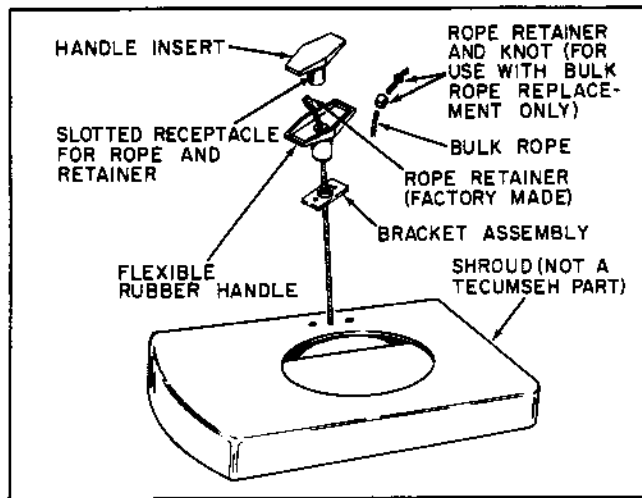

Figure 1-12
- (1) Remove handle (Figure 1-12). Relieve spring tension by allowing starter spring cover to slide slowly through fingers as rope end slips past rope clip. See Figures 1-12 and 1-13. Complete removal of the starter is not always necessary if it is easily accessible. It may be necessary to remove the shrouding provided by the mower manufacturer. See Figure 1-12.
S. ROPE REMOVAL - Remove knotted end from pulley receptacle and cut off knot. This will allow the rope to be removed. Remove handle as outlined in appropriate paragraph and figure 1-12.